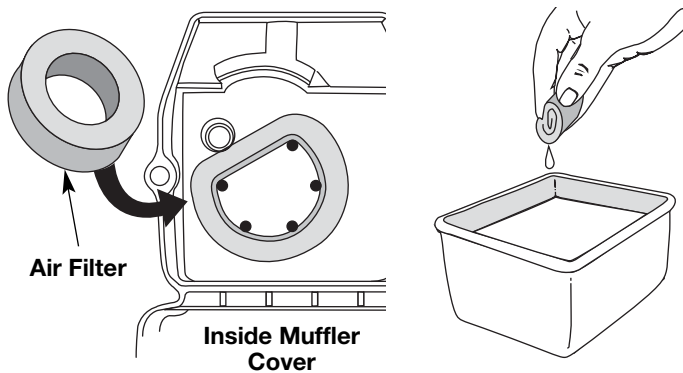

Fig. 25
2. Turn cover over and look inside to locate the air filter. Remove the air filter from inside the air filter/muffler cover (Fig. 25).
6. Replace the air filter inside the air filter/muffler cover (Fig. 25).